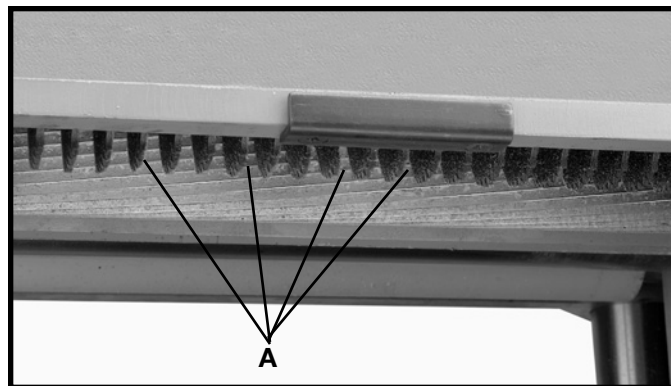

Fig. 27
A series of anti-kickback fingers (A) Fig. 27, are provided on the infeed end of the planer, to prevent kickback of the workpiece during the planing operation. These anti-kickback fingers operate by gravity and no adjustment is required. It is necessary, however, to inspect them occasionally to make sure they are free of gum and pitch and that they move independently and operate correctly.